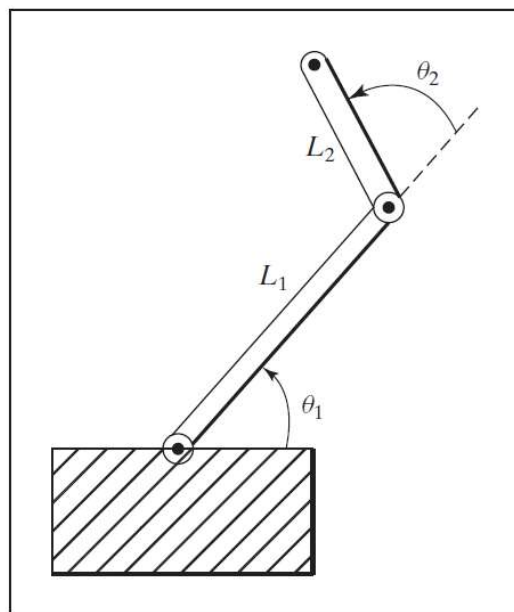

FIGURE 4.13: Two-link planar manipulator (Exercise 4.9).
- 4.9** [26] Figure 4.13 shows a two-link planar arm with rotary joints. For this arm, the second link is half as long as the first—that is,  $l_1 = 2l_2$ . The joint range limits in degrees are